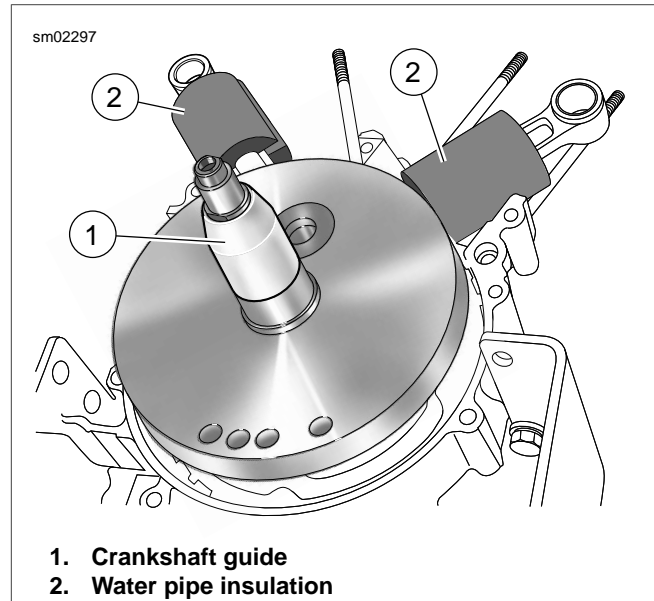

Figure 3-55. Crankshaft Guide (Part No. HD-42326-A)
7. See Figure 3-55. To facilitate assembly and prevent damage to the crankshaft (roller) bearing in the right crankcase half, place CRANKSHAFT GUIDE (1) (Part No. HD-42326-B) over end of crankshaft until it contacts shoulder on shaft.